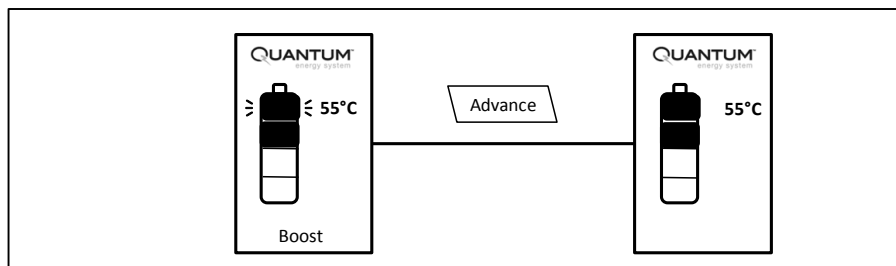

Figure 20: How to Activate and De-activate the Boost Immersion Heater
- press the advance button again to de-activate (see Figure 20)